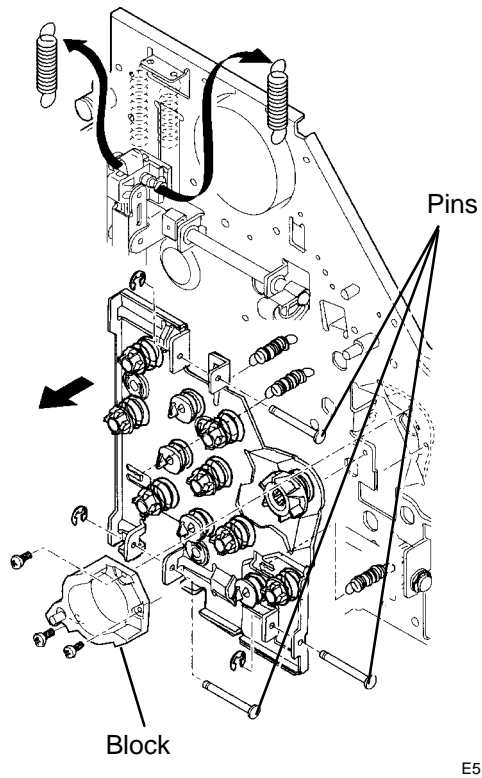

Figure 3. Removing the Pins and Block
4. (Figure 3): Remove the 3 pins and the Block.